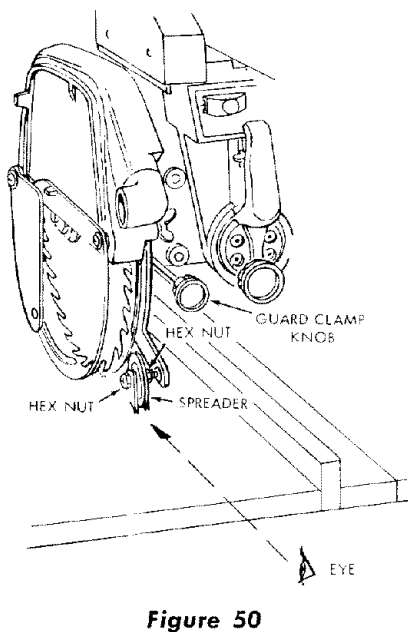

Figure 50
- b. Sight (visually) to check for proper alignment of spreader with saw blade, as shown in figure 50. If the spreader is not aligned, adjust it as follows:
- (1) Loosen two hex nuts, one on each side of spreader figure 50).
- (2) Rotate hex nuts with fingers until the spreader is directly in line with saw blade.
- (3) Tighten both hex nuts firmly.
- f. Loosen the guard clamp knob (figure 50) and rotate the guard so that it just clears the workpiece (figure 51). Tighten the guard clamp knob.